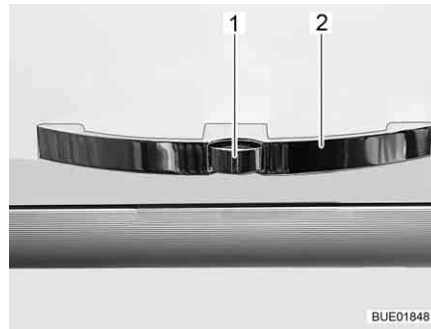

Fig. 47 Furniture flap with handle (example)
- Press the release knob (Fig. 47,1) on the handle (Fig. 47,2) and hold it down.